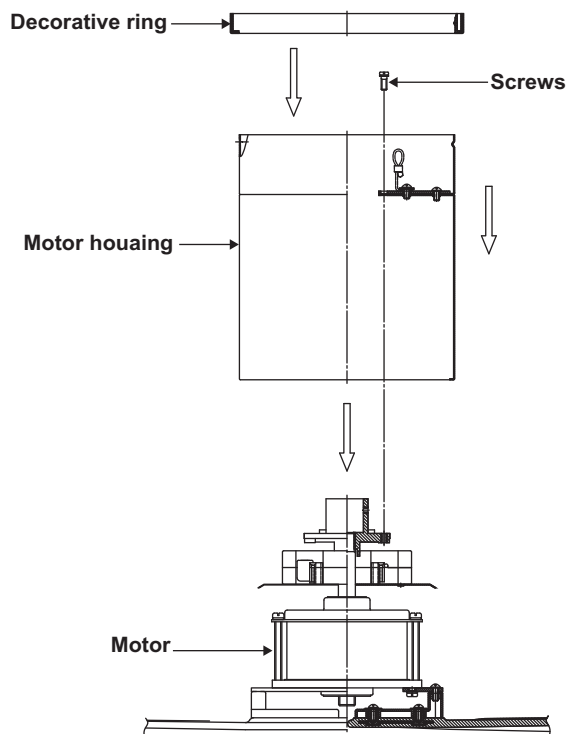

Figure 7
Step 1. Replace the motor housing to the fan motor by using the screws previously removed. Slide the decorative ring down and through the motor housing. (Fig. 7)